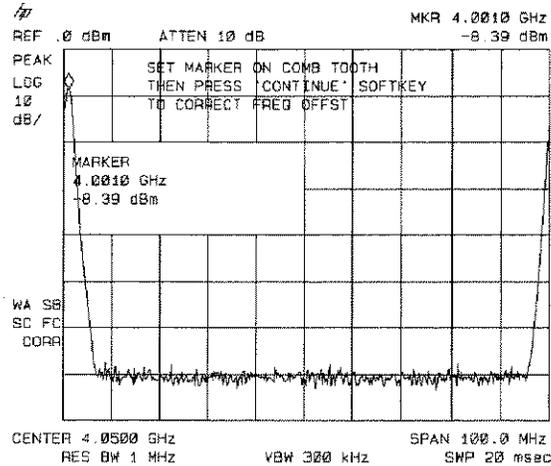

Figure 3-31. Using the Correct to Comb Function
3. Press **AUX CTRL**, **COMB GEN ON OFF** (ON), then **Correct To Comb**. The marker is activated and the menu for the correct to comb routine is displayed. The message Set marker on comb tooth then press CONTINUE softkey to correct freq offst. is displayed. See Figure 3-31.